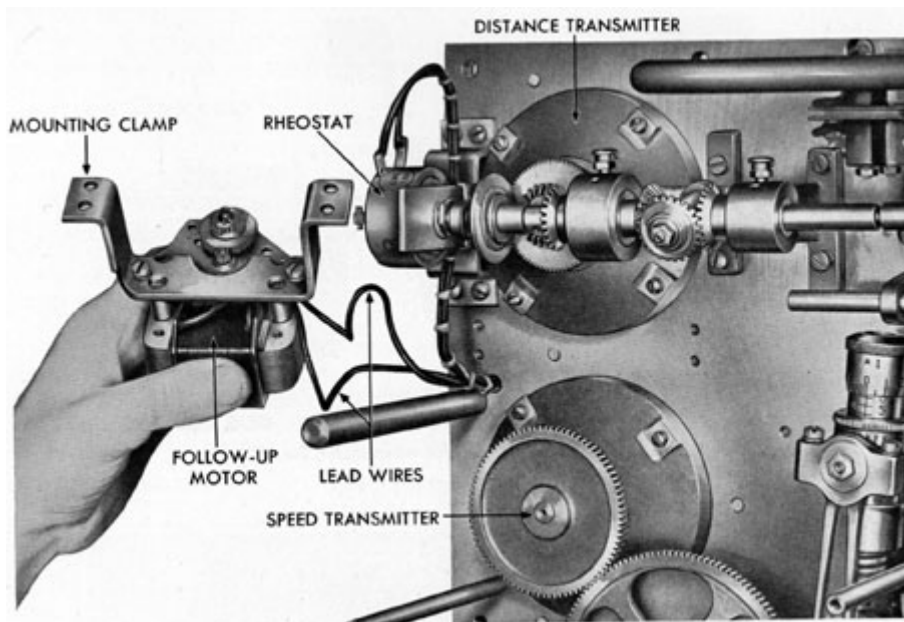

Figure 13-30. Removing follow-up motor.
**13G3. Removing the follow-up motor.** (See Figure 13-30.) Remove the four screws that secure the follow-up motor mounting clamp to the main mounting plate, and lift the motor to one side so that the lead wires are made accessible. Unsolder the wires from the motor terminals, and mark the wires for ready identification. Place the motor to one side.
**13G5. Installing the follow-up motor.** (See Figure 13-30.) Solder the motor lead wires to the terminals on the motor. Place the motor and mounting bracket in position on